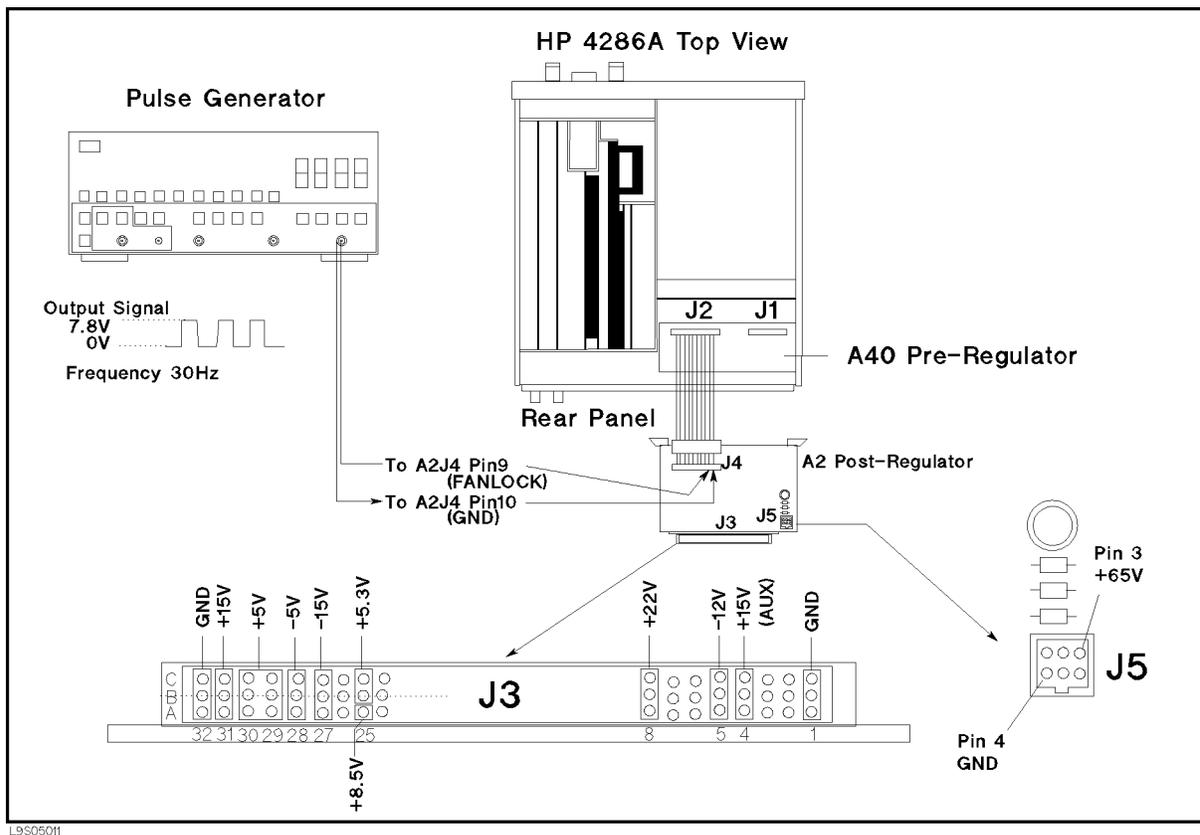

Figure 5-11. A2 Output Voltage Measurement Setup
- Reconnect the cable between the A2J4 and the A40J2 as shown in Figure 5-11.
- Connect the pulse generator to the A2J4 as shown in Figure 5-11.
- h. Measure the A2 output voltages at the A2J3 pins and A2J5 pins using a voltmeter with a small probe. See Figure 5-11 and Table 5-3 for the power supplies, A2J3 and A2J5 pins, and the limits.